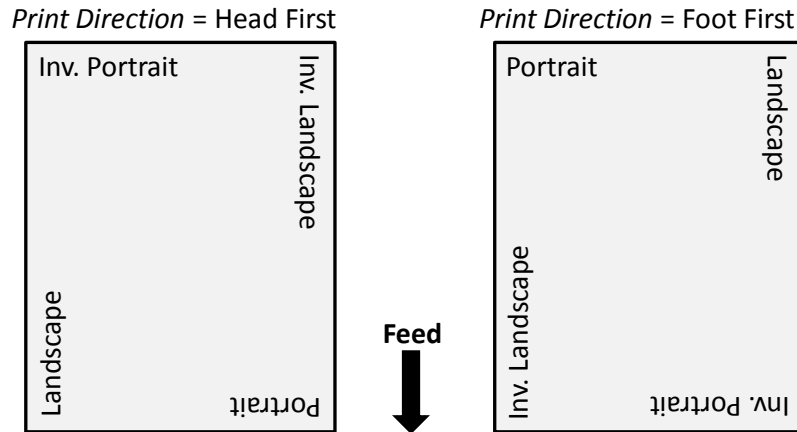

Figure 20. Orientation versus Print Direction
This is illustrated in Figure 20 (page 82) where text is placed at the origin according to its Orientation setting. ZGL has its own independent setting for Orientation.
- **Foot First** makes Portrait elements feed last (see Figure 20).